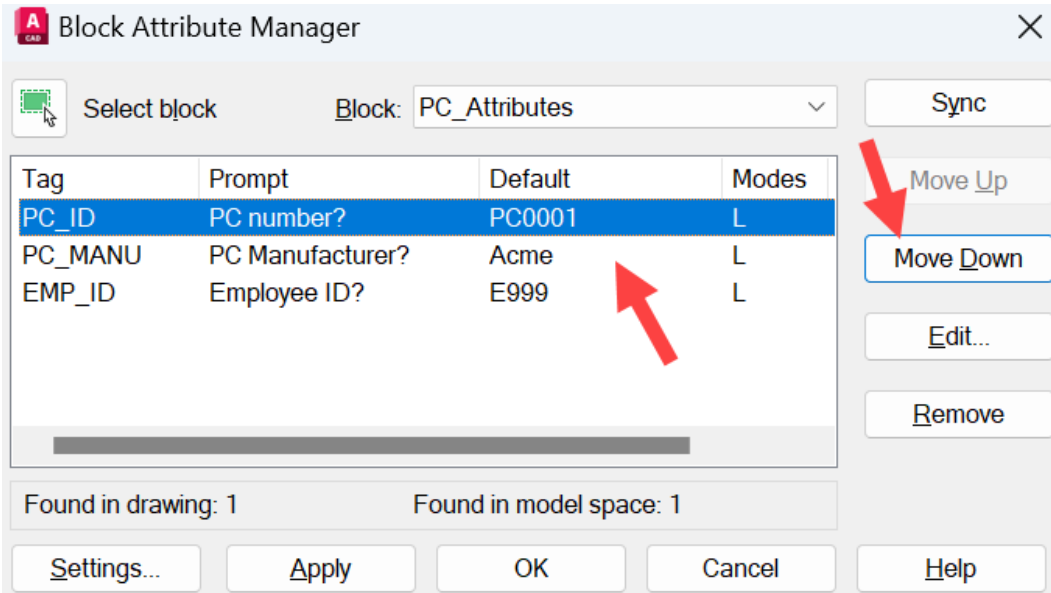

Figure 10.23: The reordered attribute list
6. Select **PC\_ID** in the attribute list. Use the **Move Up** button in the dialog box and move it to the top of the attribute list. Using **Move Up** and **Move Down** as you select an attribute, change the list order to as it is displayed in *Figure 10.23*.